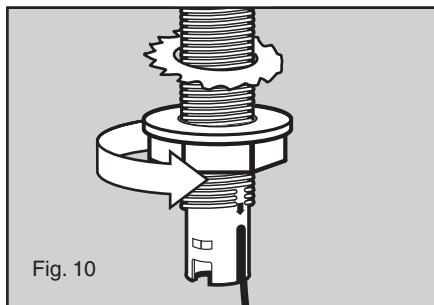

Fig. 10
11. Thread the nut onto the bottom of the threaded soap discharge head and continue turning until both lock washer and nut are secure to the underside of the plastic support ring. (see figure 10)